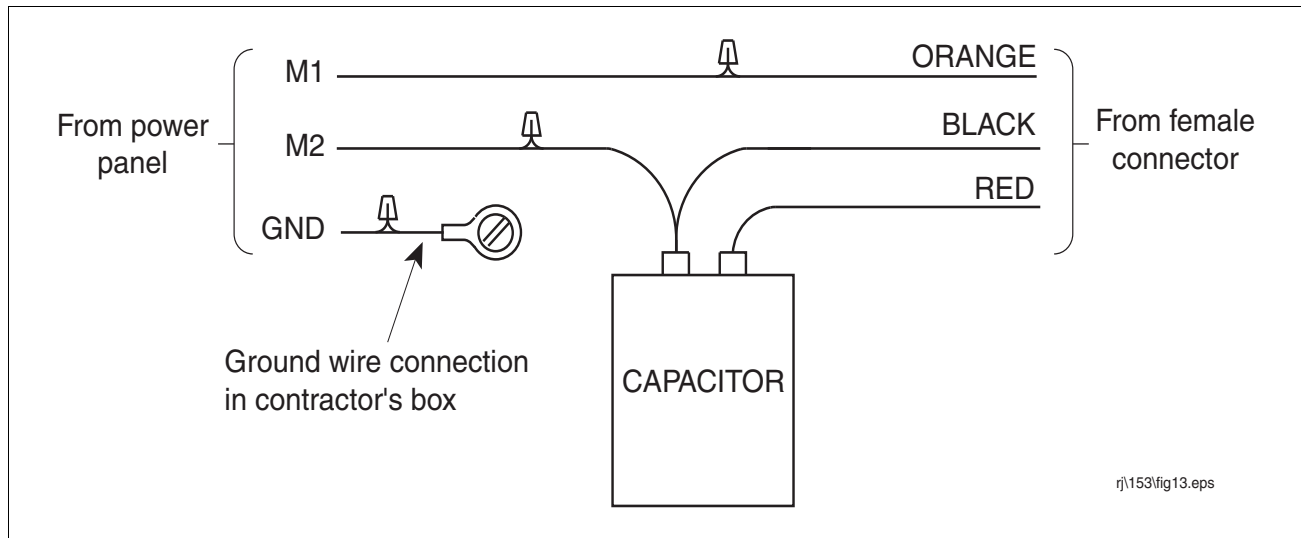

Figure 37. Wiring Schematic
16. Using supplied wire nuts attach like colored pump pigtail wires to like colored electrical connector wires as shown in Figure 37.